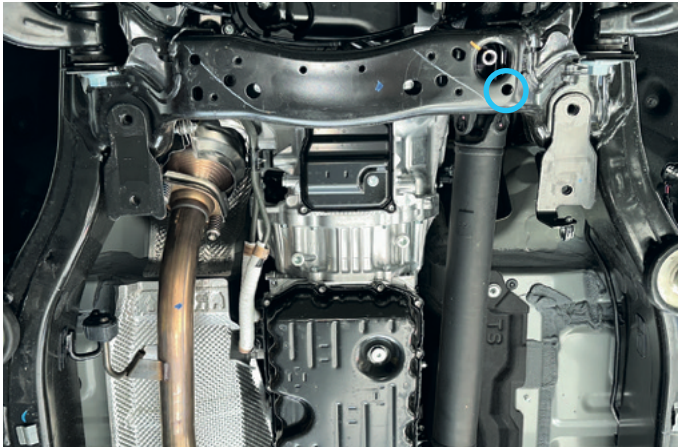

Fig. 12
12. Install insert nut M8x65 (item B) as shown in fig.12.